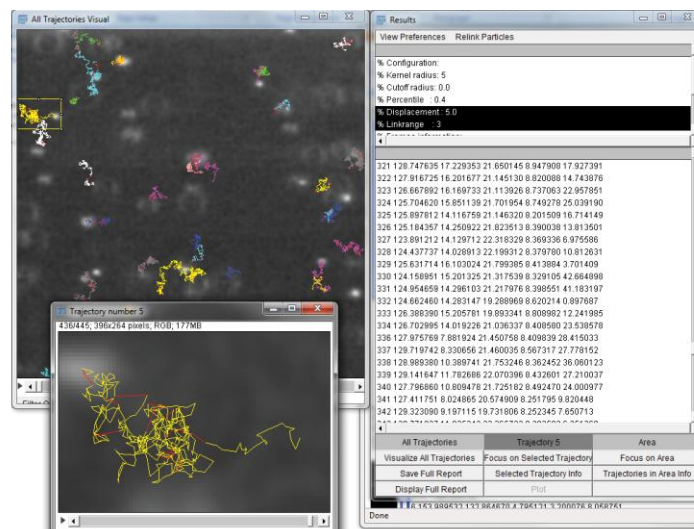

Figure 14. Focus on selected 5 trajectories.
- 13) Click on the Focus on Selected Trajectory button - a new window with a focused view of this trajectory is displayed. This view can be saved with the trajectory animation through the File menu of ImageJ. Look at the focused view and compare it to the overview window - in the focused view only the selected trajectory is displayed. See Figure 14.